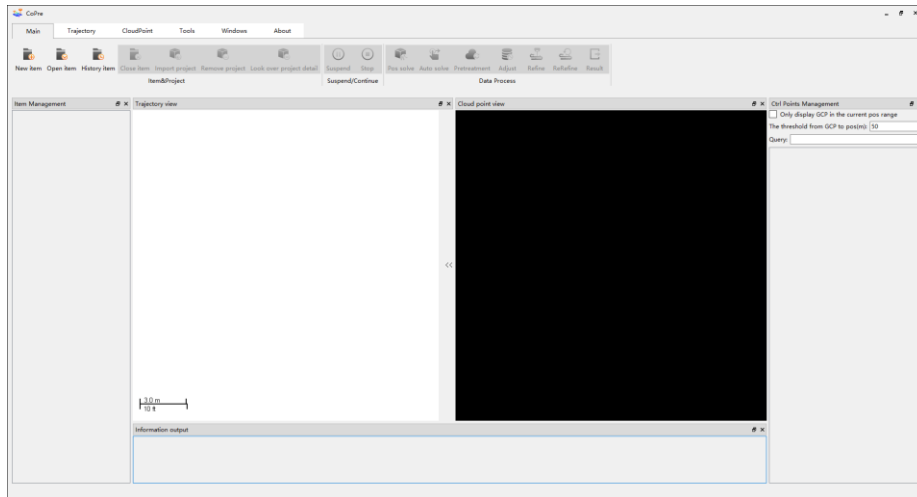

Figure 1
- Open the Copre software as shown in figure 1